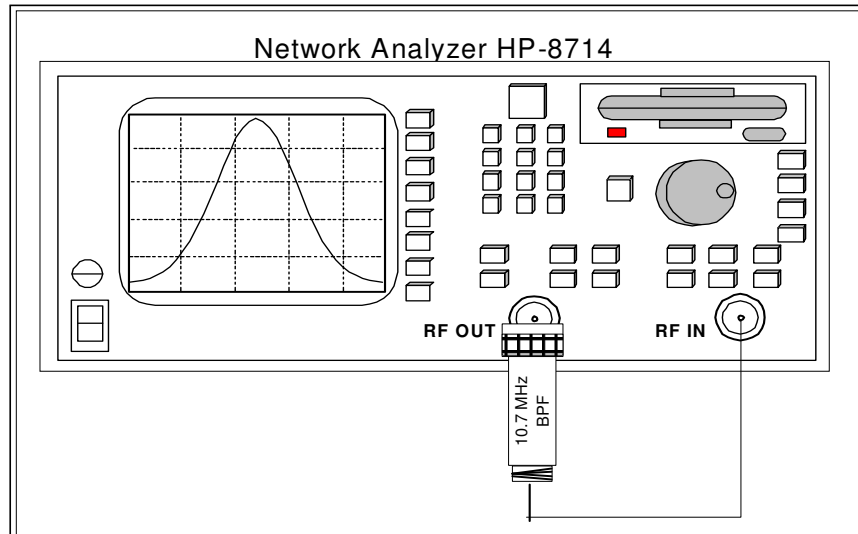

Figure 2 - Connecting a Band Pass Filter to a network analyzer.
1. Connect a BPF to the Network Analyzer, as shown in Figure 2.